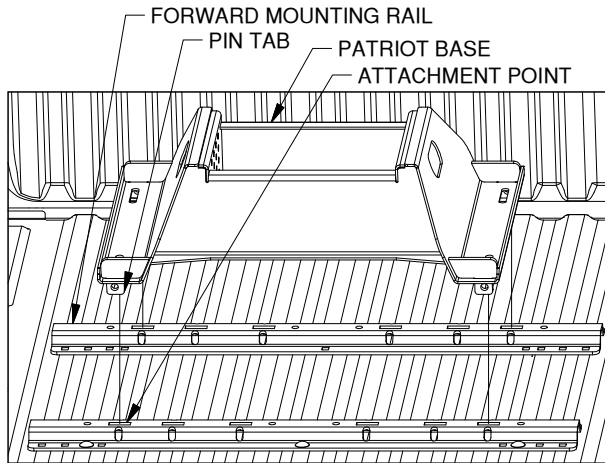

Figure E1: View looking into truck bed .
1. **Position the forward mounting rail.** For this step the base which will be used in the mounting rails is required. Place a mounting rail into the truck bed in front of the rear mounting rail. Place the base over the rail attachment points and carefully lower it until the pin tabs pass through the attachment points on the rear mounting rail. Attach the forward mounting rail to the forward mounting points on the base. The base should rest flat against the top of the rails, see Figure E1. With the base still attached ensure that the forward rail is centered in the truck bed.